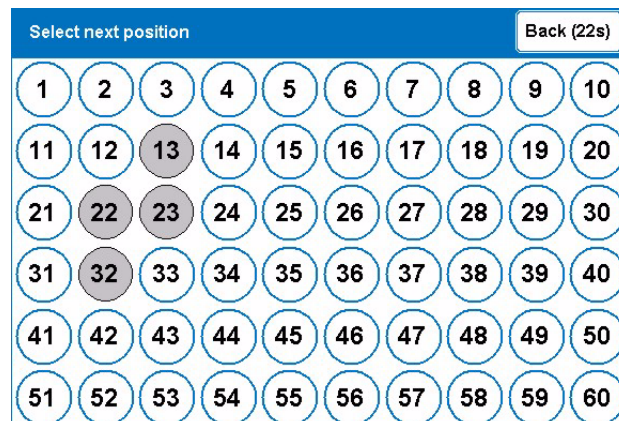

Figure 9.11 Position Selection Screen
- The selection screen (Figure 9.11) will be displayed again:
- The selection screen (Figure 9.11) will be displayed again.